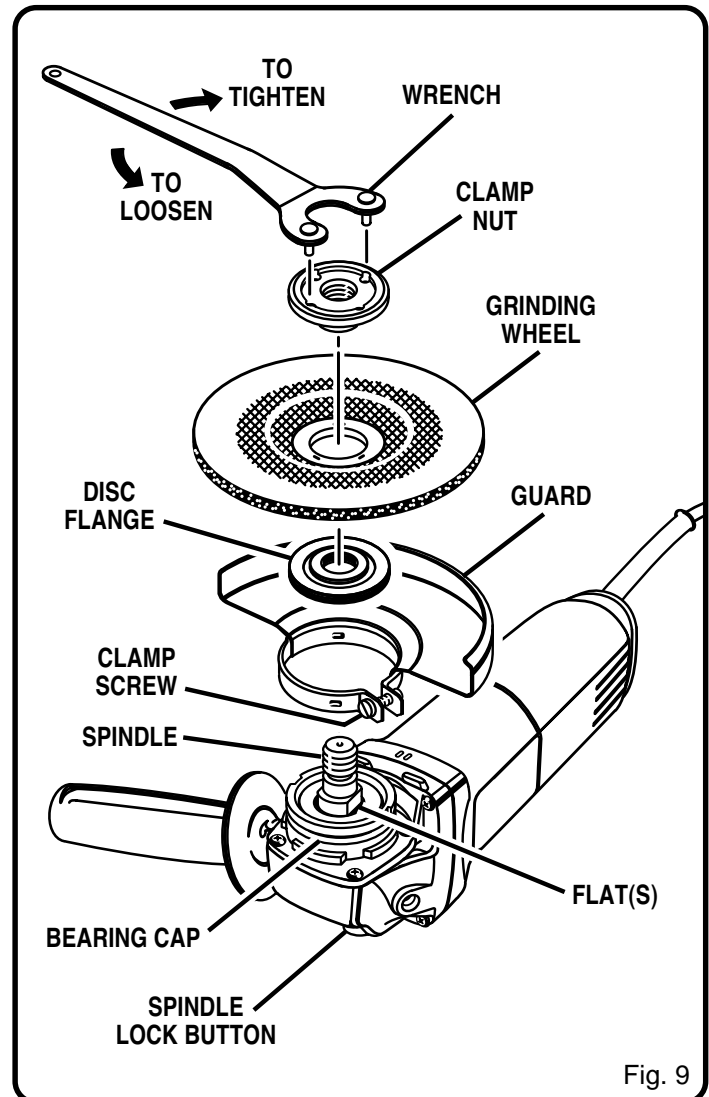

Fig. 9
See Figure 9.
- Remove and reassemble parts as shown in figure 9.
- Place the new guard on the shoulder of the bearing cap. See Figure 9.